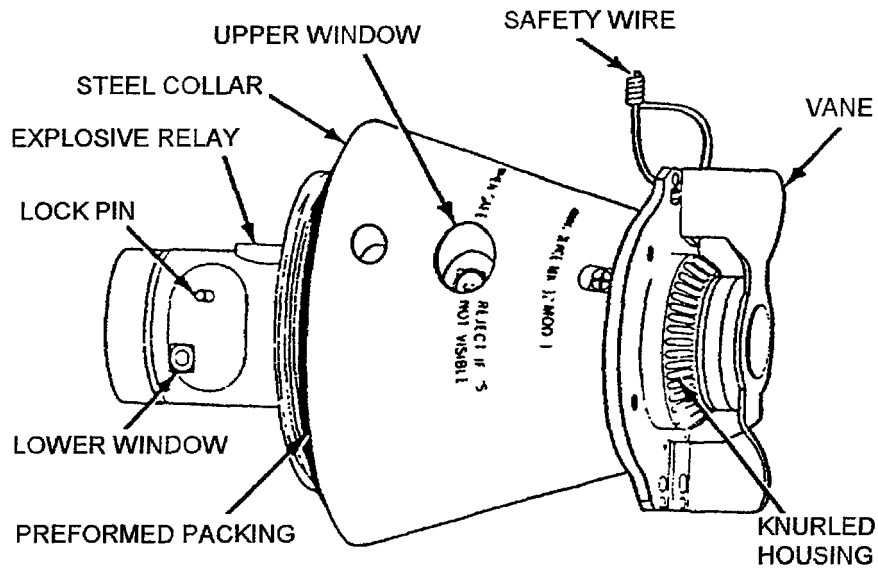

Figure 4-14A. Arming Device Mk 32
- (1) Verify safety wire or twisted piece of arming wire is installed through arming vane. (Replace)
- (2) Verify white "S" on green background shows in upper window and nothing shows in lower window. (Reject)
- (3) Verify that vanes are not bent or damaged. (Reject)
- (4) Verify arming device does not exhibit damage that will affect its fit or function. (Reject)
- (5) Using PPE per MSDS, lightly grease the arming device threads and new preformed packing and install on steel collar (Figure 4-14A).